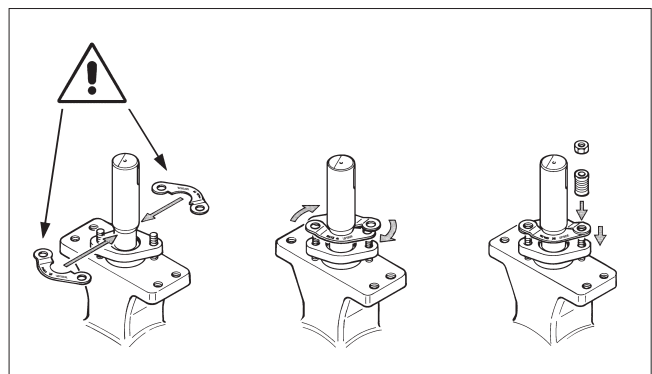

Fig. 9 Mounting the retaining plates
- Unfasten the nuts (25) and remove the disc spring (TA-Luft) kits (44), the retaining plates (42) and the gland (9).
- Remove old packing rings (20). Do not damage the surfaces of the packing ring counterbore and shaft. It is not necessary to change anti-extrusion ring (22).
- Mount the retaining plates with the text UPSIDE on top (see Fig. 9).